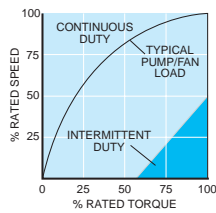

**FIGURE 13. TYPICAL STANDARD AC MOTORS ADJUSTABLE SPEED OPERATION**
- The motor thermal capacity must typically be derated as a function of the minimum, continuous operating speed in accord with Figure 13, due to the reduced ventilation provided by the integral motor fan. Where the application requires 100% rated torque at speeds below 50% of synchronous speed, a separately powered ventilation blower, a nonventilated motor with greater reserve thermal capacity or, a motor with higher rated capacity should be used. When a separately powered ventilation blower is used, a thermostat should be built into the motor to prevent damage which may result from a failure in the ventilation system.